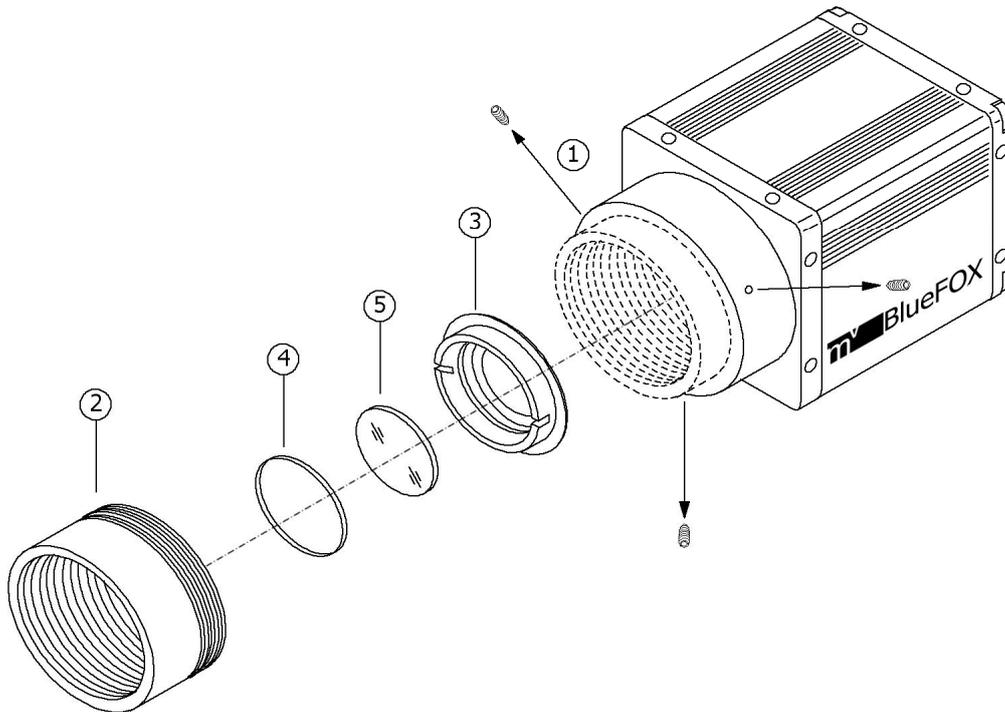

Figure 1 Filter mounting
1. unfix the 3 set screws on the front plate with the aid of the 0.9mm allen wrench ((**1**) in figure 1). Afterwards
2. turn the mount ring nut anti-clockwise from the front plate ((**2**) in figure 1).
1. turn the filter frame anti-clockwise from the front plate ((**3**) in figure 1) using a screw driver or a similar tool. Set the screw driver at the groove of the filter frame.
1. Remove the rubber locking ring using a pointed forceps ((**4**) in figure 1). Afterwards,
2. change the filter ((**5**) in figure 1). Finally,